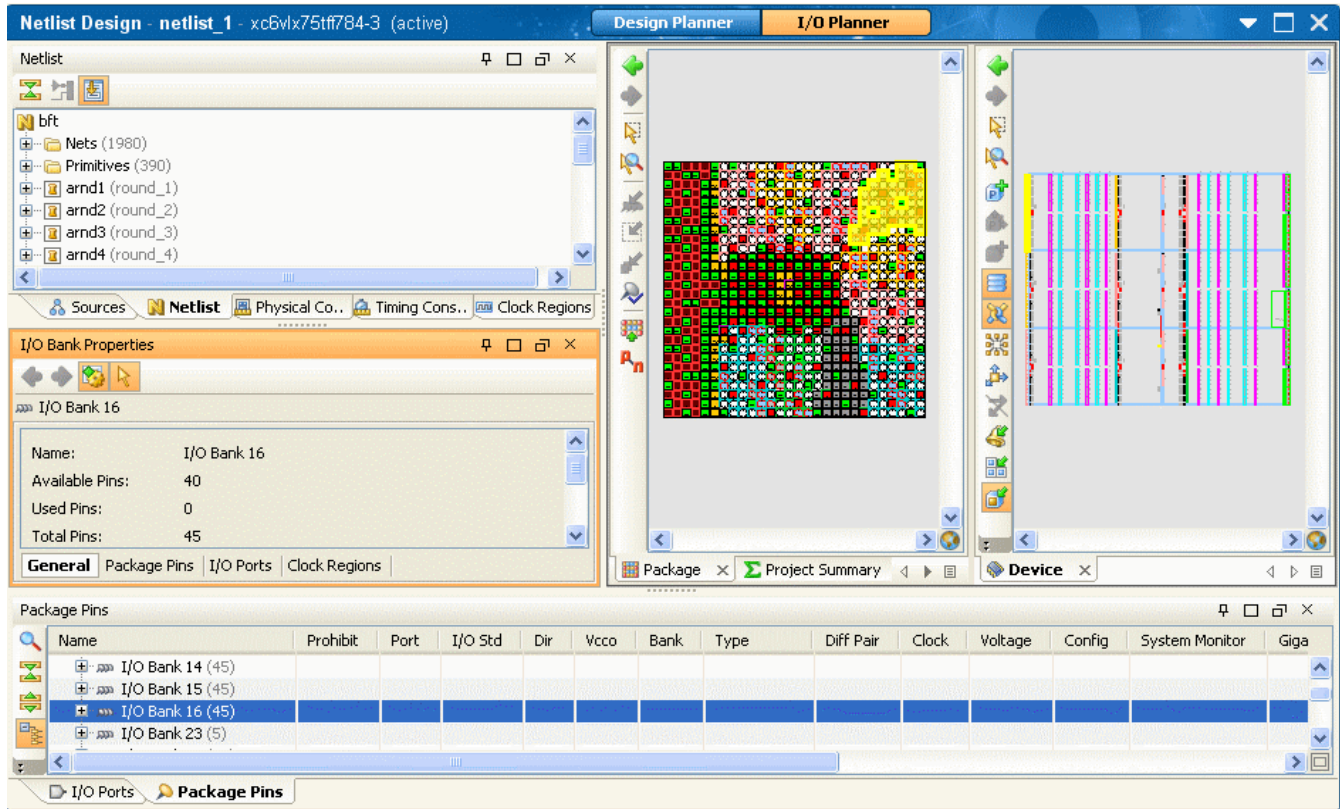

Figure 8-4: Displaying I/O Bank Location and Resources
- In the I/O Bank Properties view you can click the General tab. Figure 8-4, page 243 illustrates the I/O bank display.